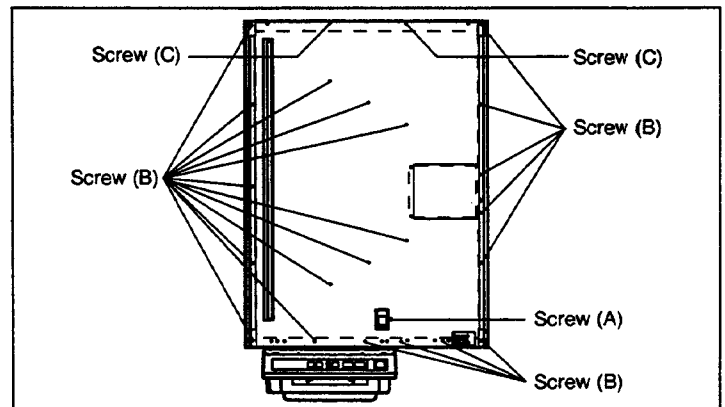

Fig. 5-5
- 3) Remove 1 screw (A) shown in Fig. 5-5.
- 4) Remove 21 screws (B) and loosen 2 screws (C), as shown in Fig. 5-5, and remove the optical unit cover with the CCD cover.